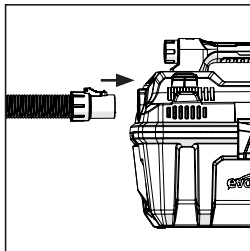

FIG. 5
- Insert one end of the hose into the blowing port. (Fig. 5)